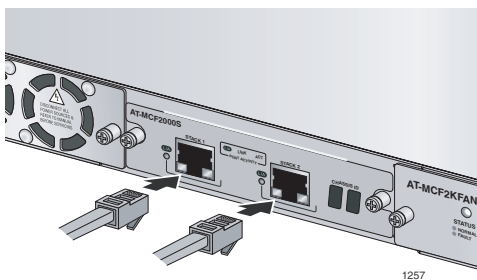

Figure 6. Connecting the Stacking Cables
7. Connect the cables from the STACK ports on the other units in the stack to the STACK 1 and STACK 2 ports. See Figure 6 on page 22.